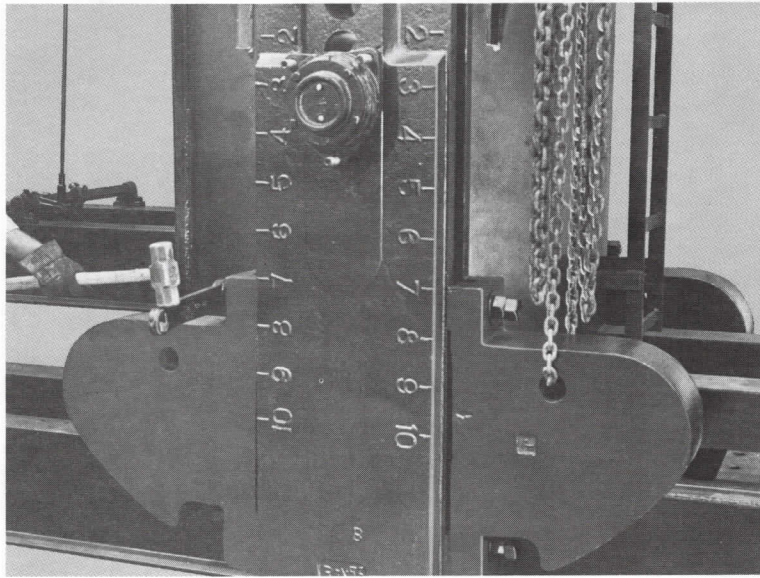

Fig. 5
7. Install counterweights on cranks. Holes through weights are provided to aid in their handling during assembly, Fig. 5. Cranks are furnished with two counterweight adapters, an adjusting screw lug and bolts for attaching and adjusting each weight.